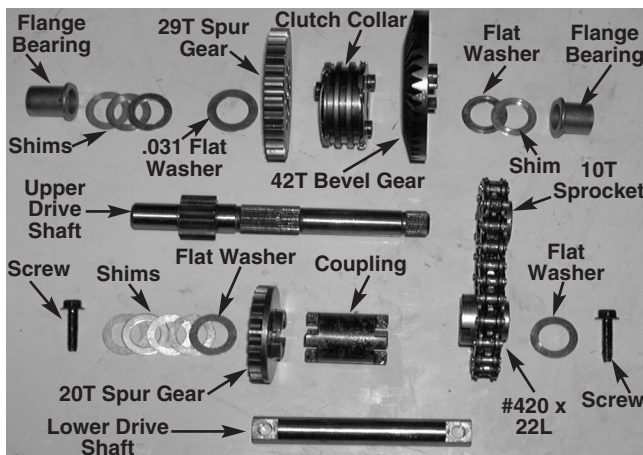

FIGURE 2.
- 9). Remove and inspect all components of the upper and lower drive shafts. See figure 2.